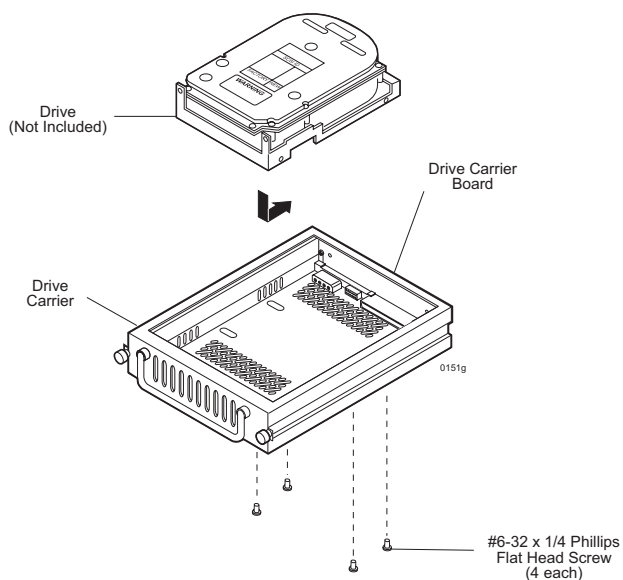

Figure 6: Drive Installation Assembly
1. Carefully insert the drive into the carrier. Slide the drive towards the Drive Carrier Board, so that the I/O, DC power, and ID select connectors on the drive mate with their respective connectors on the drive carrier board (Figure 6).
2. Fasten the drive into place with four (4) #6-32 Phillips Flat Hd. screws (Figure 6).